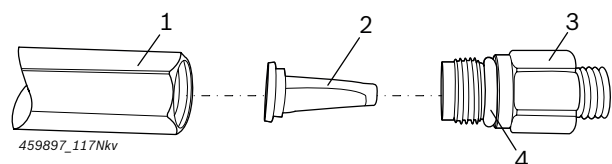
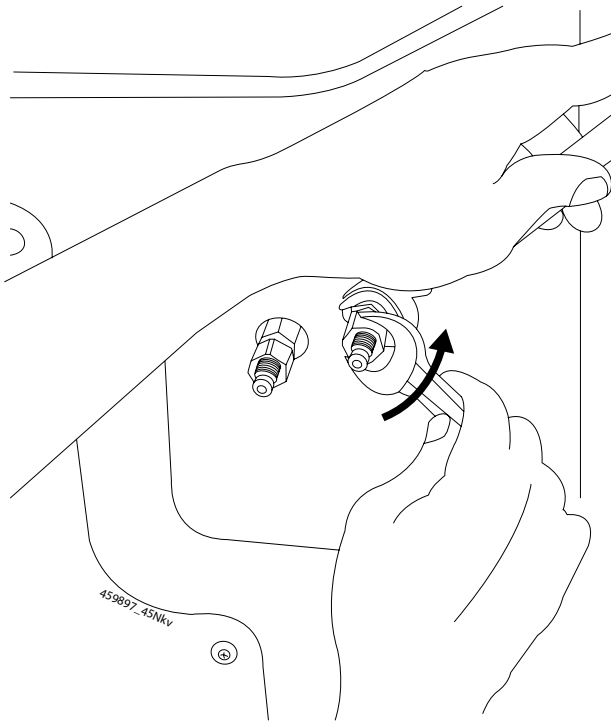

Fig. 10: Inline filter overview
Fig. 11: Removing the adapter for the hoses.
The inline filters have to be changed every time the filter drier is changed. The inline filters consist of a filter insert (Fig. 10, Pos. 2) mounted inside the filter body.
5. Grip the adapter (Fig. 10, Pos. 1) with a spanner. Loosen the adapter for hoses (Fig. 10, Pos. 3) as shown in fig. 11.